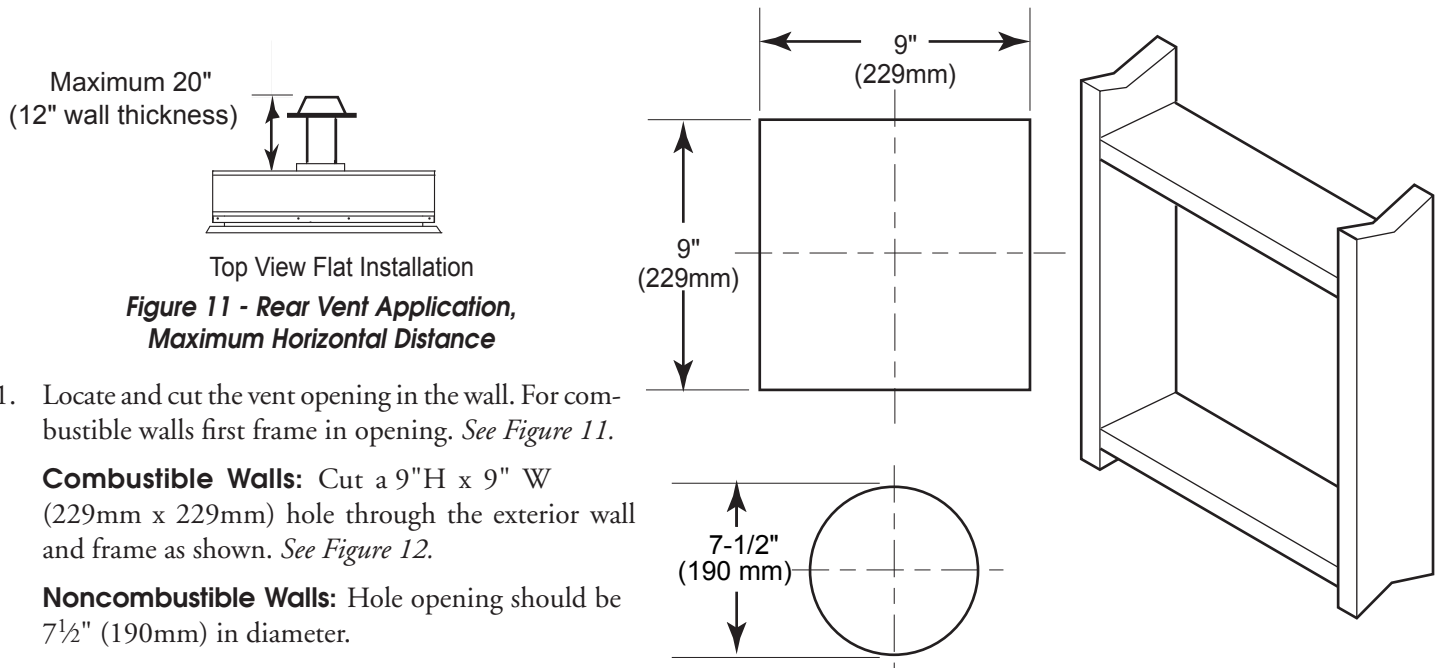

Figure 11 - Rear Vent Application, Maximum Horizontal Distance
- The maximum horizontal distance between the rear of the appliance and the outside of termination is 20" (508 mm). See Figure 11.
1. Locate and cut the vent opening in the wall. For combustible walls first frame in opening. See Figure 11.
3. Attach vent pipe assembly to the fireplace. Set fireplace in front of its permanent location to insure minimum clearances. Mark the wall for a 9"H x 9"W (229mm x 229mm) rectangle hole (for noncombustible material such as masonry block or concrete, a 7½" [190mm] diameter hole is acceptable). See Figure 11. The center of the hole should line up with the center line of the horizontal rigid vent pipe end. Be sure to allow for minimum rise. Cut a 9"x9" (229mm x 229mm) rectangle hole through combustible exterior wall (7½" [190mm] diameter hole if noncombustible). Frame as necessary. Allow ¼" minimum rise per foot. See Figure 12.